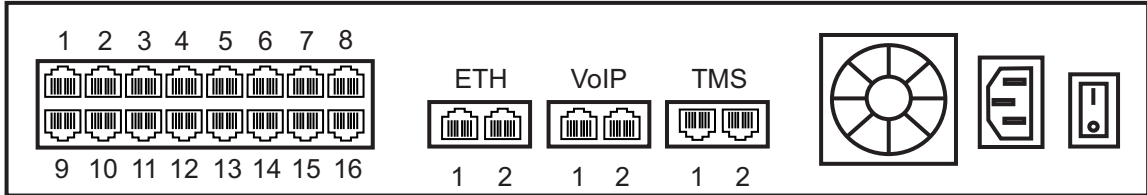

Figure 2.7 16-Port Interface to the PSTN
A TMP6400 with 16 RJ48 ports enables the connection to T1/E1/J1 lines. The termination impedance is set at 100 ohms for T1 lines and 120 ohms for E1 lines. It is possible to connect an external balun in order to convert to 75 ohms. See figure 2.7 on page 17
- 1. Start with port 1 located at the top and left-most position. Connect one cable between this port and the T1/E1/J1 line (figure 2.7 on page 17).